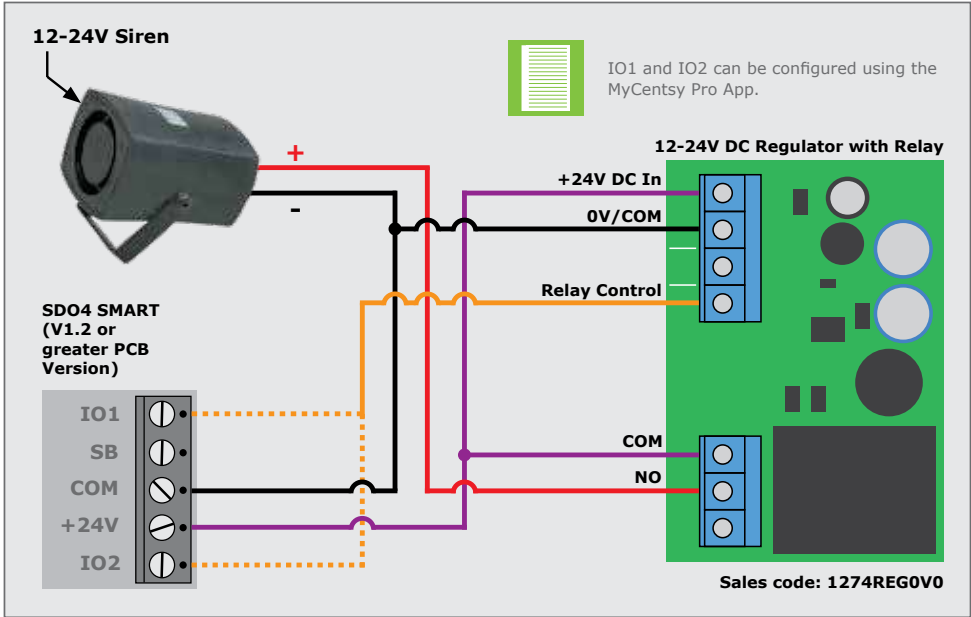

FIGURE 89. 12V SIREN
1. Scan the QR Code in Figure 89.